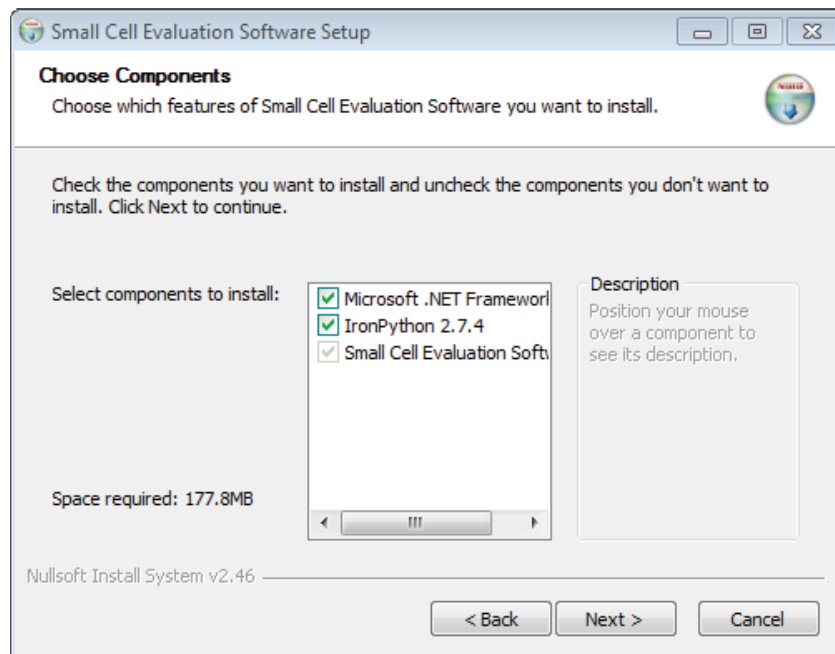

Figure 3. Software Installation Components
2. After running the executable file, a standard installation wizard opens. The wizard, by default, installs optional components, including the **Microsoft .NET Framework 4.5** (which is mandatory for the software to operate) and **IronPython 2.7.4** (which is optional but recommended), as shown in Figure 3.